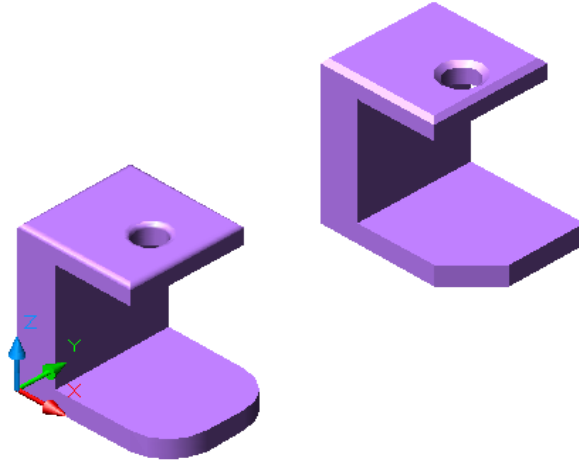

Figure Step 1
Step 1 Open the drawing: AutoCAD 3D Workalong 19-2. Using SAVEAS, save the drawing with the name: AutoCAD 3D Workalong 19-3 (Figure Step 1)